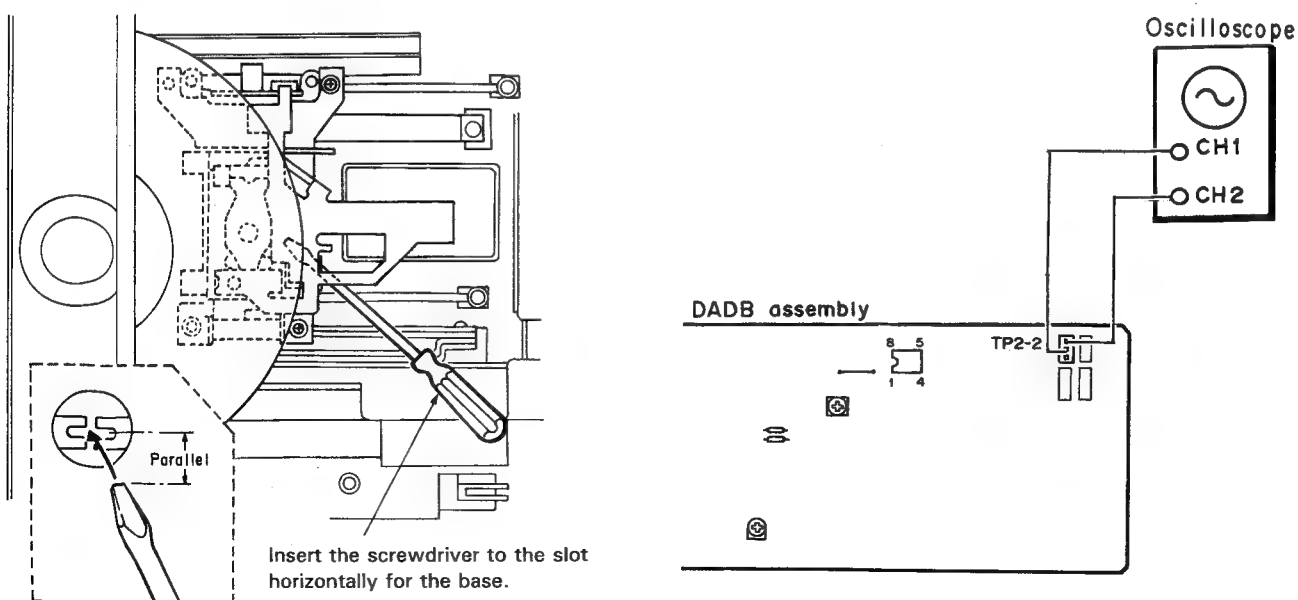

Fig. 6
3. Insert the flat-bladed small screwdriver into the grating adjustment hole, and fine adjust the grating so that the Y-axis dimension of the Lissajous waveform becomes minimum. (Fig. 6)
4. Select the X-input (CH1) of the oscilloscope, and check that the positive (A) and negative (B) amplitudes of the TRKG error signal are equal. (Photo 10)